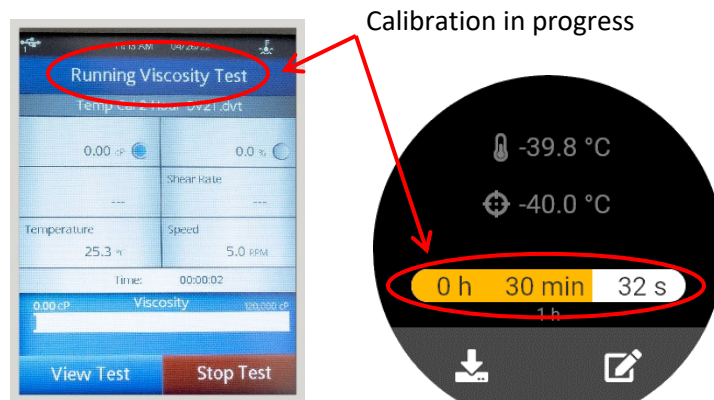

Figure 49: First Phase of Calibration Screens
5. You will see screens indicating that the calibration is in progress on both the Head Unit and Base Unit. See Figure 49.